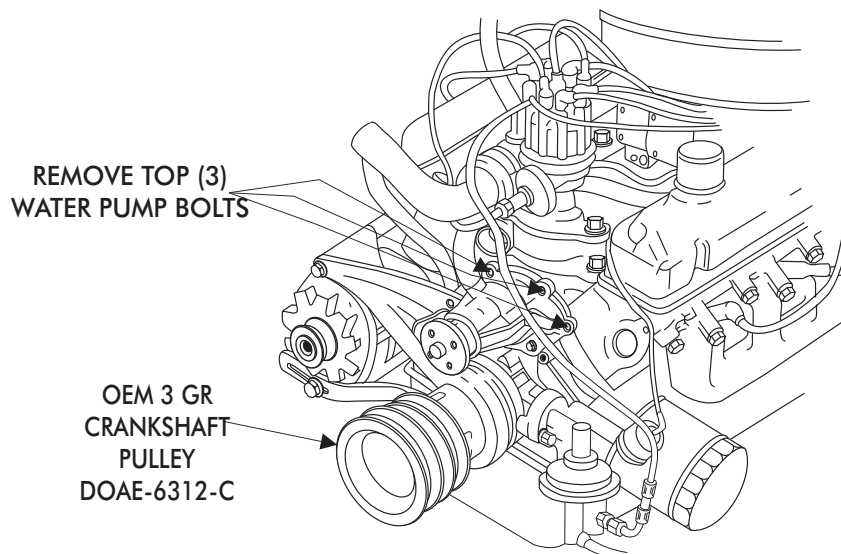

FIGURE 1
- 4. REMOVE THE TOP (3) WATER PUMP MOUNTING BOLTS (DISCARD). **SEE FIGURE 1 BELOW**